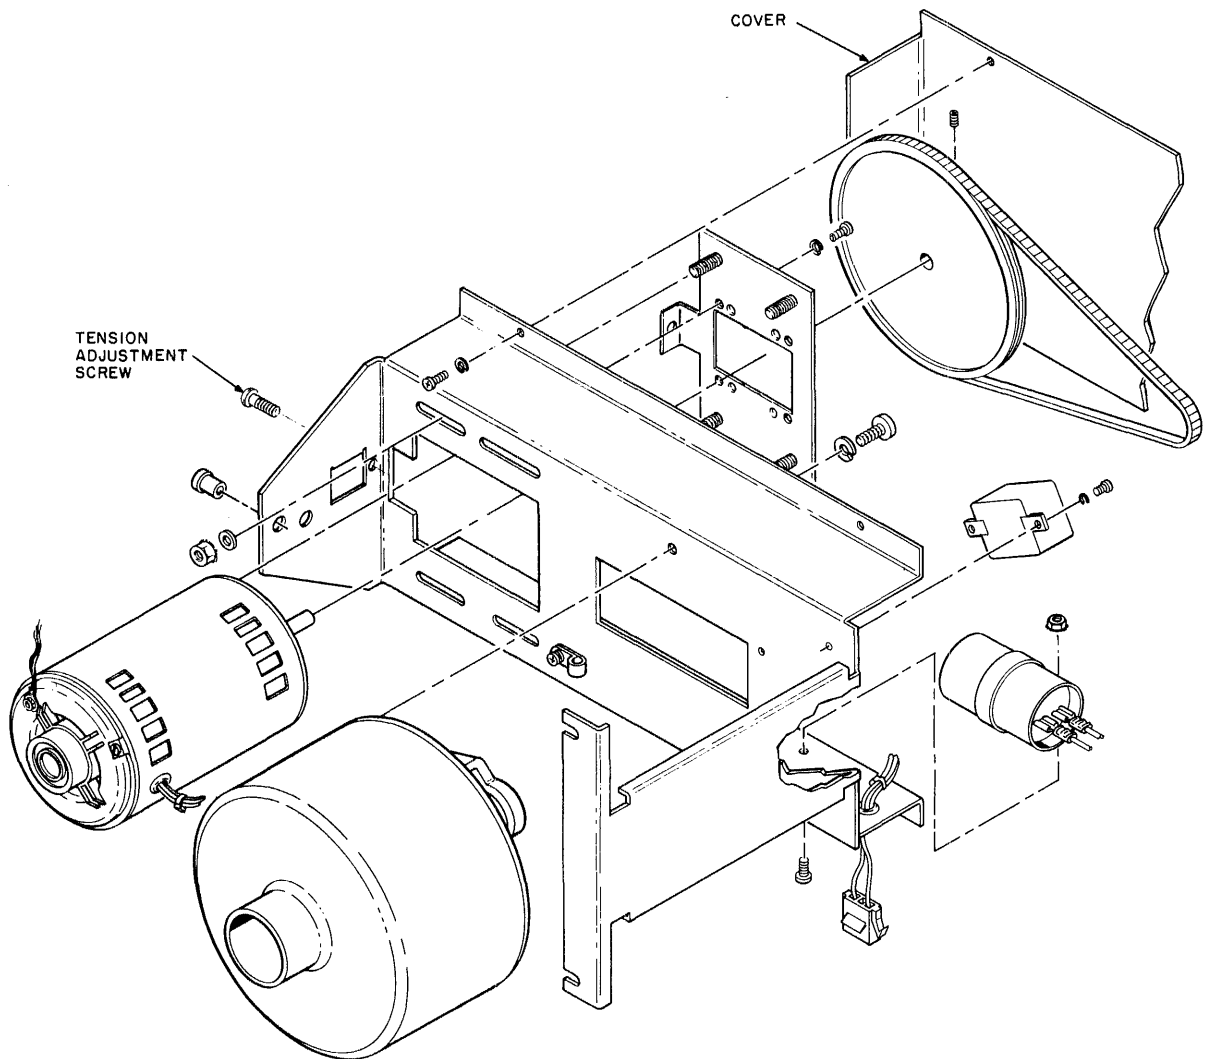

Figure 5-53 TU10 Cover Assembly
1. Remove the four Phillips head screws holding the cover in place, and remove the cover (Figure 5-53).
5. Lift the left (motor) side of the vacuum assembly high enough to expose the belt tension adjusting screw (Figure 5-53). If possible, place a small block between the protruding tab of the vacuum assembly and the TU10 cruciform so that the adjusting screw remains exposed.